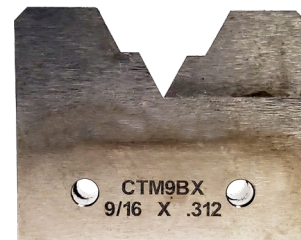

Figure 4
- 4.7 Align the cutting blades by placing the blades together. When correctly aligned the part numbers stamped on the sides of the blades will face outwards. The cutting angles should be oriented as shown in Figure 4.